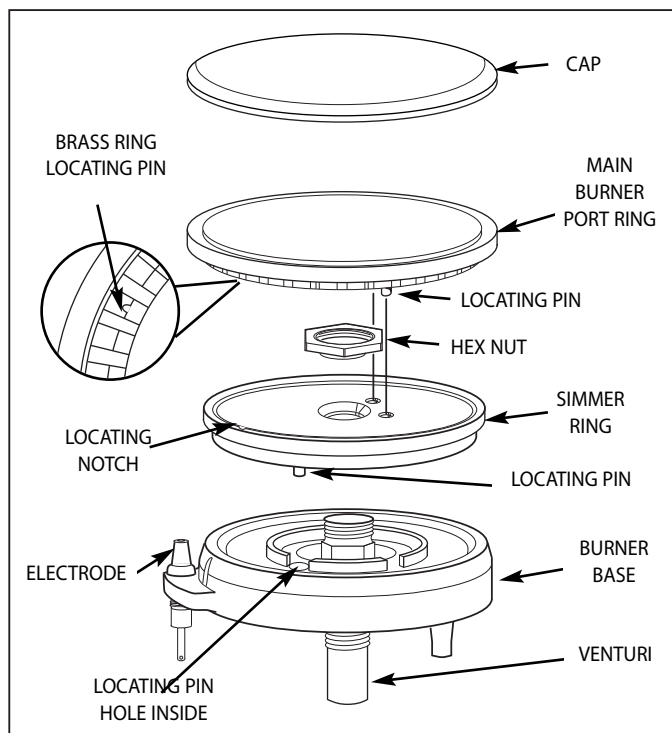

Fig. 09
For proper lighting and performance keep the burners clean. It is necessary to clean the burners if they do not light even though the igniter clicks, if there has been a severe boil over, or when the flame does not burn blue. Be certain all burner knobs are in the off position before attempting to clean the burners. The burners have been designed for ease in cleaning. When the grates and burners are cool, remove the grate. The burner cap and the brass port ring can easily be lifted off. Wash these parts in hot soapy water, rinse and dry thoroughly. The burner caps are porcelain enamel, follow the directions on the previous page that were given for the burner grates. A bristle brush can be used to clean out the toothed burner ports, if necessary. Disassembly of the simmer ring is not recommended, however, it may become necessary to do so if the ports remain clogged after normal cleaning. If it is necessary to disassemble the simmer ring from the base, remove the hex nut at the top of the simmer ring. Clean the simmer ring with hot soapy water using a soft wire or plastic bristle brush then dry thoroughly. Re-assemble the parts using the hex nut. After cleaning, it is important to make sure the locating pin on the bottom side of the simmer ring is properly aligned with the corresponding hole in the base and that the two locating pins (see insert-Fig.09) in the bottom side of the brass port ring are properly aligned with the locating notch and center holes on the top side of the simmer ring. Incorrect alignment will produce a potentially dangerous flame and poor burner performance (see Fig. 09).
- Is the two piece burner assembled correctly? (See page 15, Fig. 09)
- Is the burner head assembly aligned correctly? (See page 15, Fig. 09)